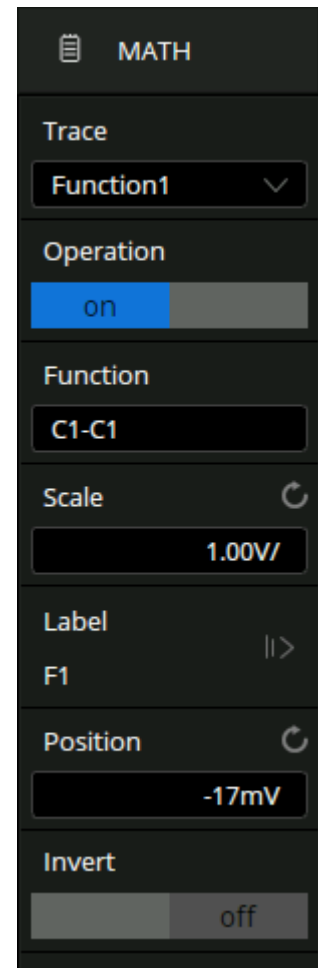

Figure 13.1 Math Menu
- The **Math** menu shown in figure 13.1 will be displayed.